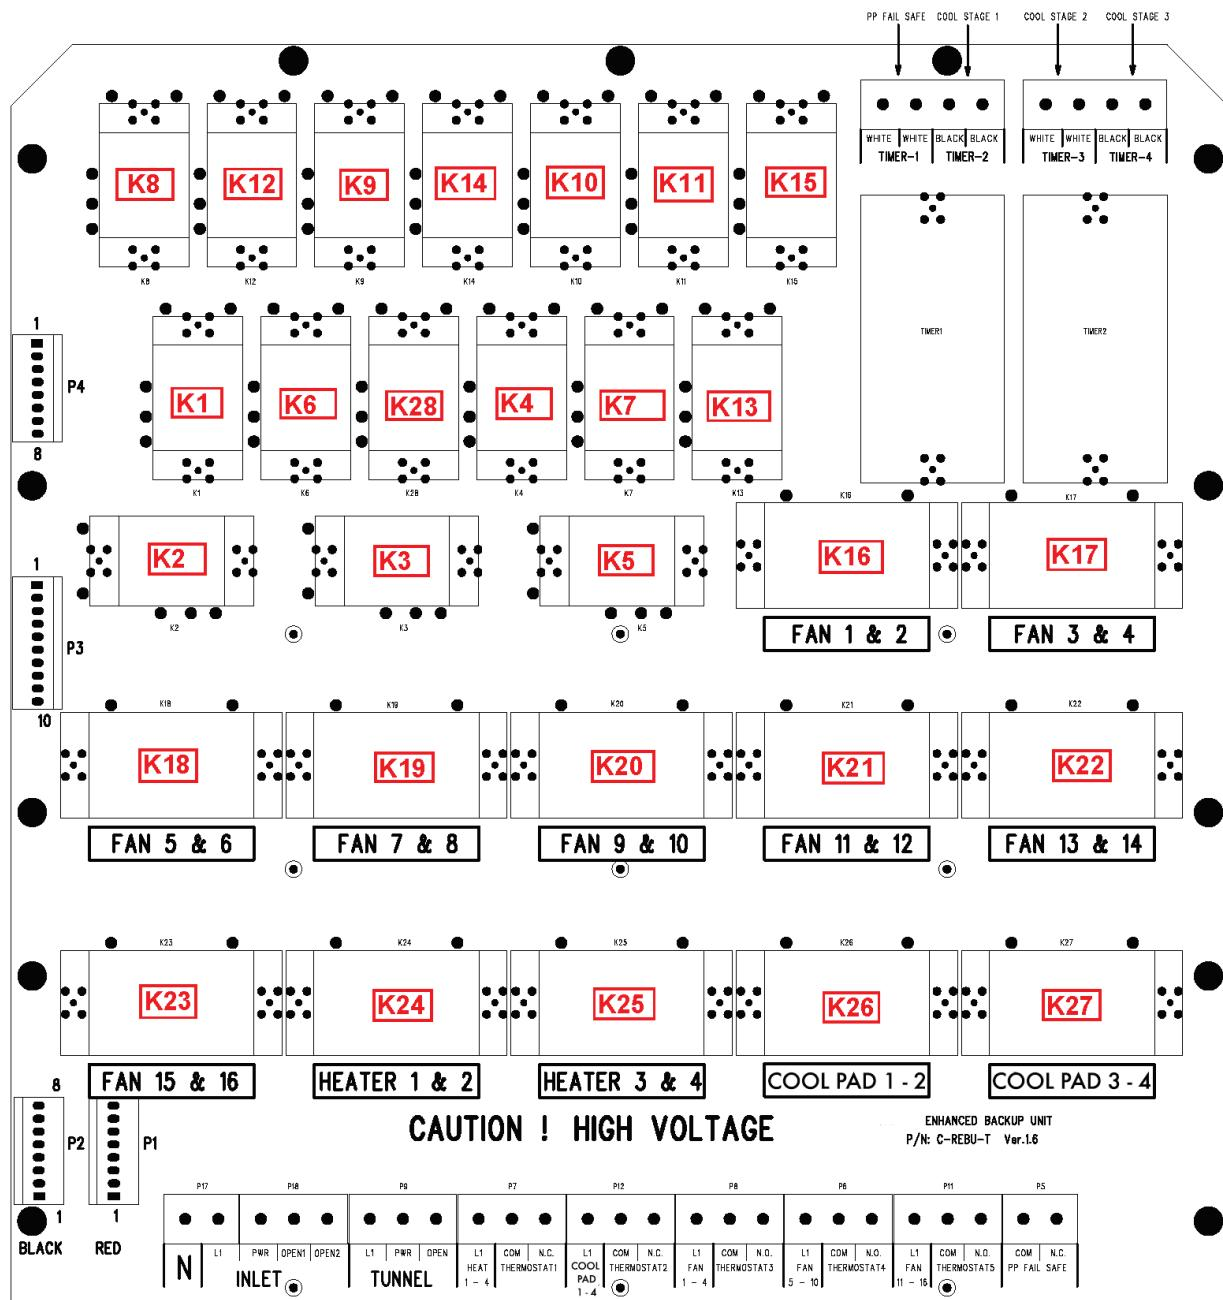

Figure 13: Contactor and Terminals Layout Map
1. With the power off, disconnect the quick connect from the COM, NO and NC relay terminals (Figure 13).
3. Using an Ohm meter, check that the resistance between the COM and NO is zero (0), and the contact between COM and NC is open.
4. Turn the power OFF, and check that the contact between the COM and NO is open, and check that the resistance between COM and NC is zero (0).